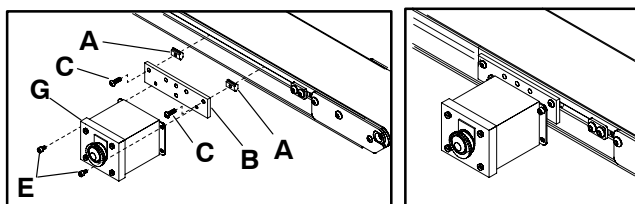

Figure 6
1. Attach Pushbutton Box (G of Figure 6) to mounting plate (B) with screws (E).
2. Insert two Single Drop-in T-bars (A of Figure 6) into conveyor T-slot.
3. Attach Pushbutton Box assembly to T-bars (A) with screws (C).